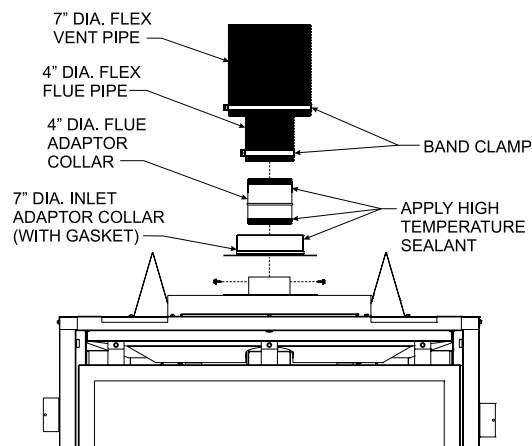

Figure 54
9. Apply sealant to the outside of the flue pipe adapter and connect to the flex flue pipe. Then insert the adapter into the fireplace flue. Secure flue adapter to the fireplace flue with a minimum of two screws provided. **See Figure 54.**